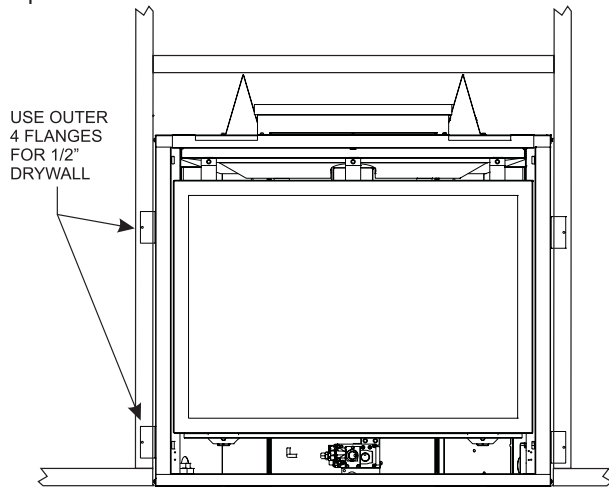

Figure 10
4. Use eight 1/2" hex-head screws supplied in hardware package, to screw through slotted holes in drywall strip and then screw into pre-drilled holes on fireplace side. **See Figure 10.** Measure from face of fireplace to face of drywall strip to determine final depth.